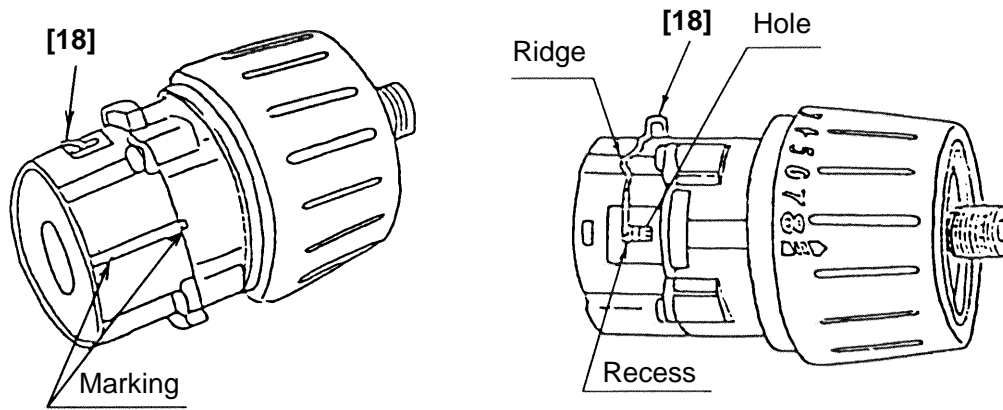

Fig. 11
- (ii) Install the Front Case [11] and the Rear Case [17] together with the marking on the Front Case [11] aligned with the marking on the Rear Case [17]. (See Fig.11.)
- (i) With the ridge at the Shift Arm [18] set on the Motor [27] side, first install them on the unmarked side of the assembly reassembled in step (b). Then insert the projection on the Shift Arm [18] into the hole in the Rear Case [17] and make sure that the projection is fitted into the recess in the Slide Ring Gear [19] mounted within the Rear Case [17]. (See Fig. 11.)